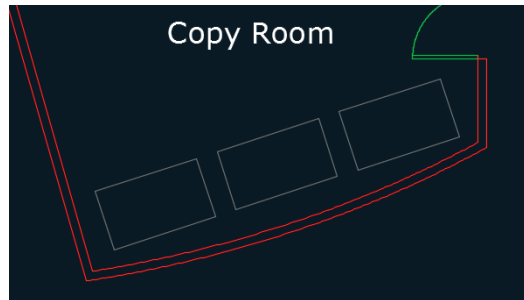

FIGURE 4.25 Offsetting and filleting walls
3. Type **F** (for Fillet), press Enter, and click the new elliptical arc and the inner line of the adjacent vertical wall on the right. Press the spacebar to repeat the **FILLET** command, and click the elliptical arc and inner line of the adjacent vertical wall on the left. The intersections between the wall objects are cleaned up (see Figure 4.25).